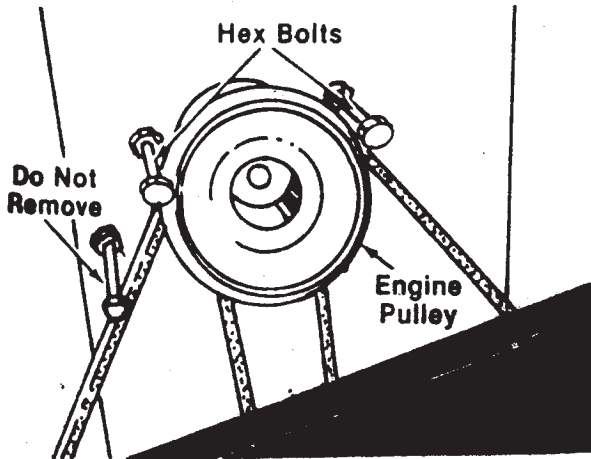

FIGURE 1.
2. Remove the two hex bolts (belt keepers) from the engine pulley belt guard. See figure 1.
Figure 1 is shown with the unit tipped up for clarity. It is not necessary to tip the unit to remove the belts.